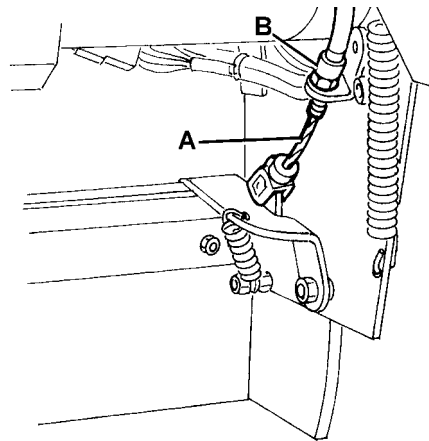

Figure 23
11. Press the front skirt lifting pedal (83) completely, and check that the front skirt lifts 5 cm approximately. Release the pedal and check that the skirt does not remain in an intermediate position but returns to its initial position. If necessary, adjust the skirt lifting cable (A, Fig. 23) with the adjuster (B) on the left front side of the skirt (for the front skirt control cable replacement, see the Service Manual).